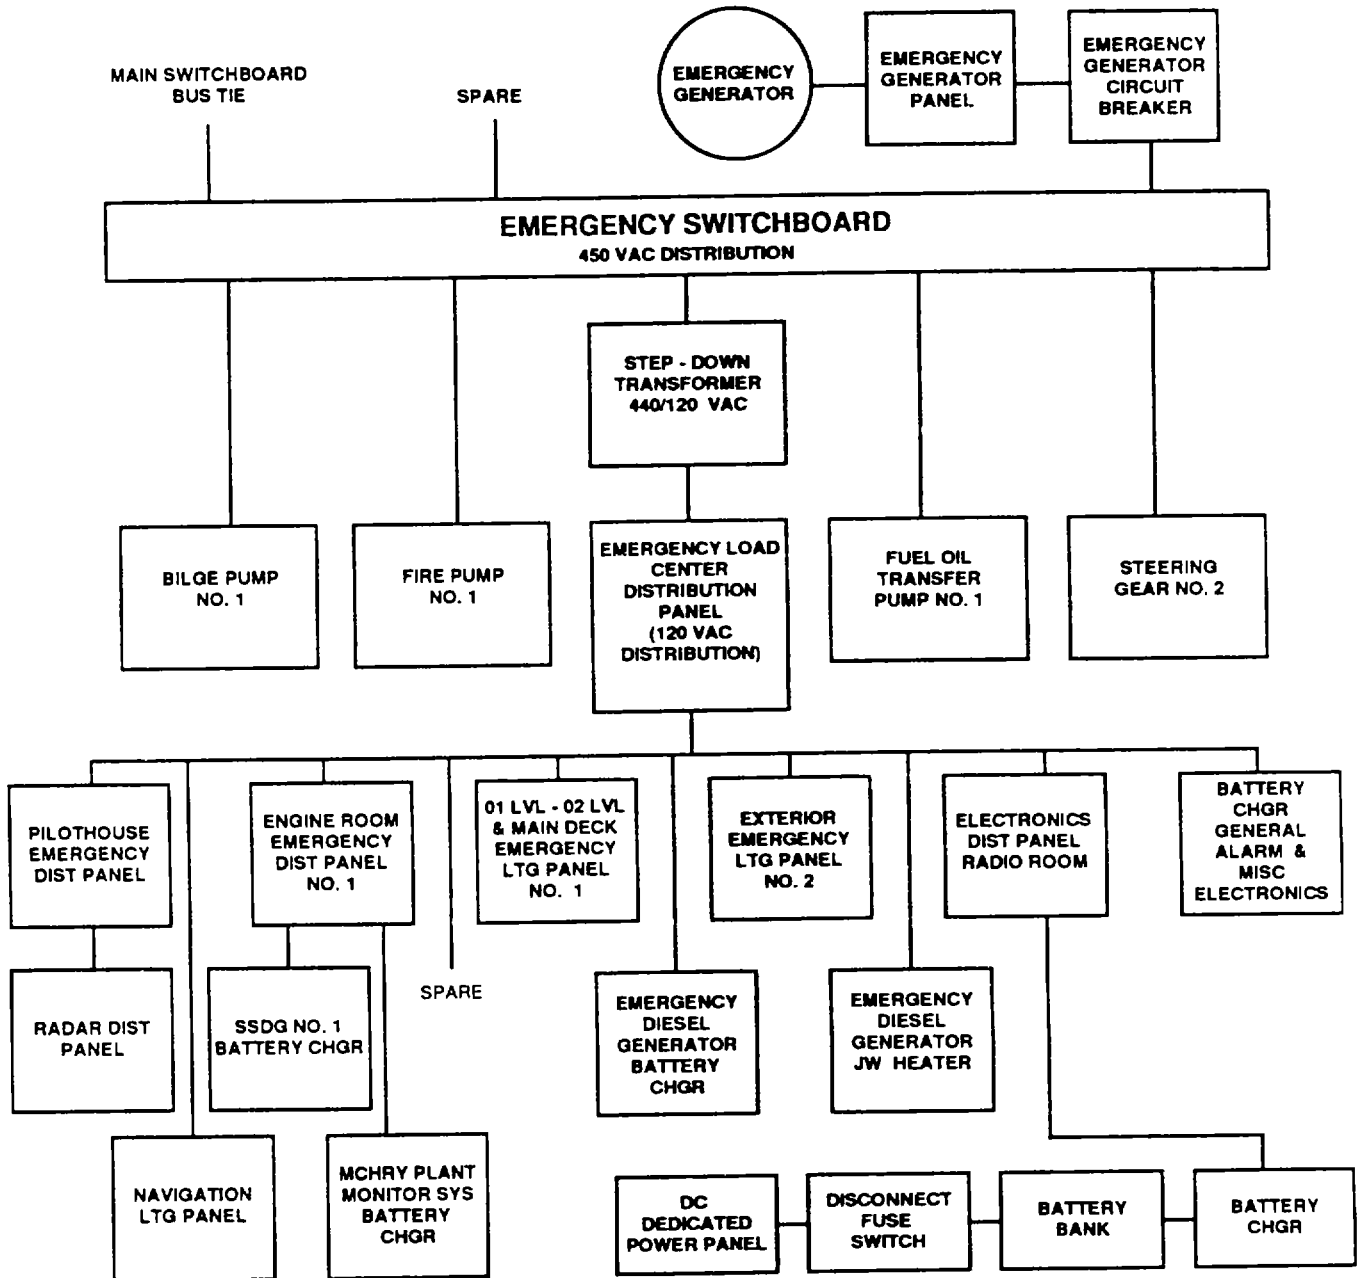

Figure 1-9. Emergency Switchboard.
(2). Emergency Switchboard. The emergency switchboard (Figure 1-9), located in the emergency generator room, normally receives 450 Vac primary power from the main switchboard through the bus tie. Upon loss of ship service power from the main switchboard, a bus tie breaker transfer within the emergency switchboard isolates the emergency switchboard and provides for automatic or manual starting of the emergency generator. Power monitoring is provided by a voltmeter, ammeter, and frequency meter. A main switchboard bus tie circuit breaker and feedback switch permits distribution of emergency power (450 Vac) to the main switchboard. The emergency generator circuit breaker is prevented from being closed by an interlock system when primary power is being provided through the bus tie. Power distribution (450 Vac) is accomplished through circuit breakers on the switchboard. A step-down transformer provides 120 Vac to the Emergency Load Center Distribution Panel.